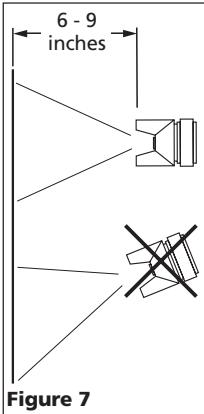

Figure 7
- Begin spraying. Always keep the gun at right angles to the work (See Figure 7).